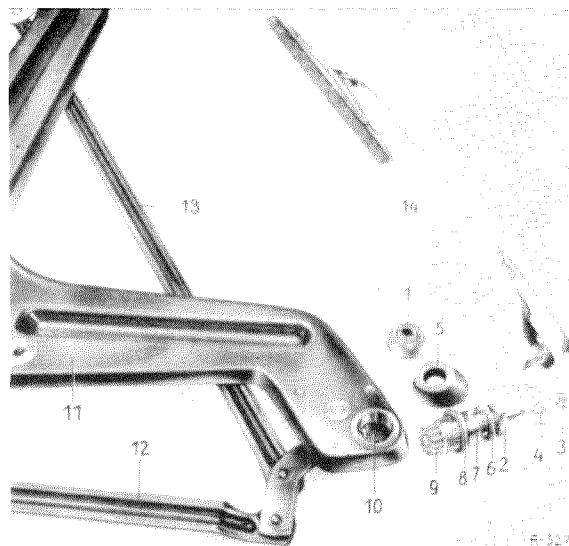

Fig. 82 — 5/2
5. Use Special Socket Wrench 120 589 00 09 to unscrew the bearings (7) of the wiper shafts from the plates (11) on the left and on the right (Fig. 82 — 5/2). Take out the bearings (7) together with the wiper shafts (9) and the corrugated washers (8).